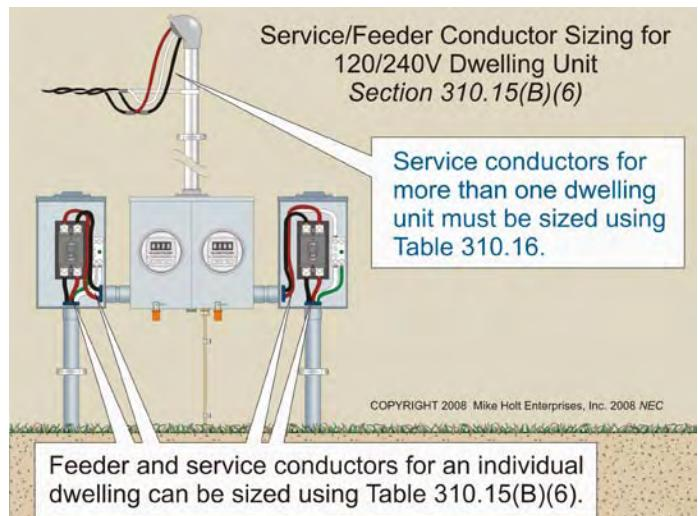

Figure 310-19
Author's Comment: Table 310.15(B)(6) cannot be used for service conductors for two-family or multifamily buildings. **Figure 310-19**